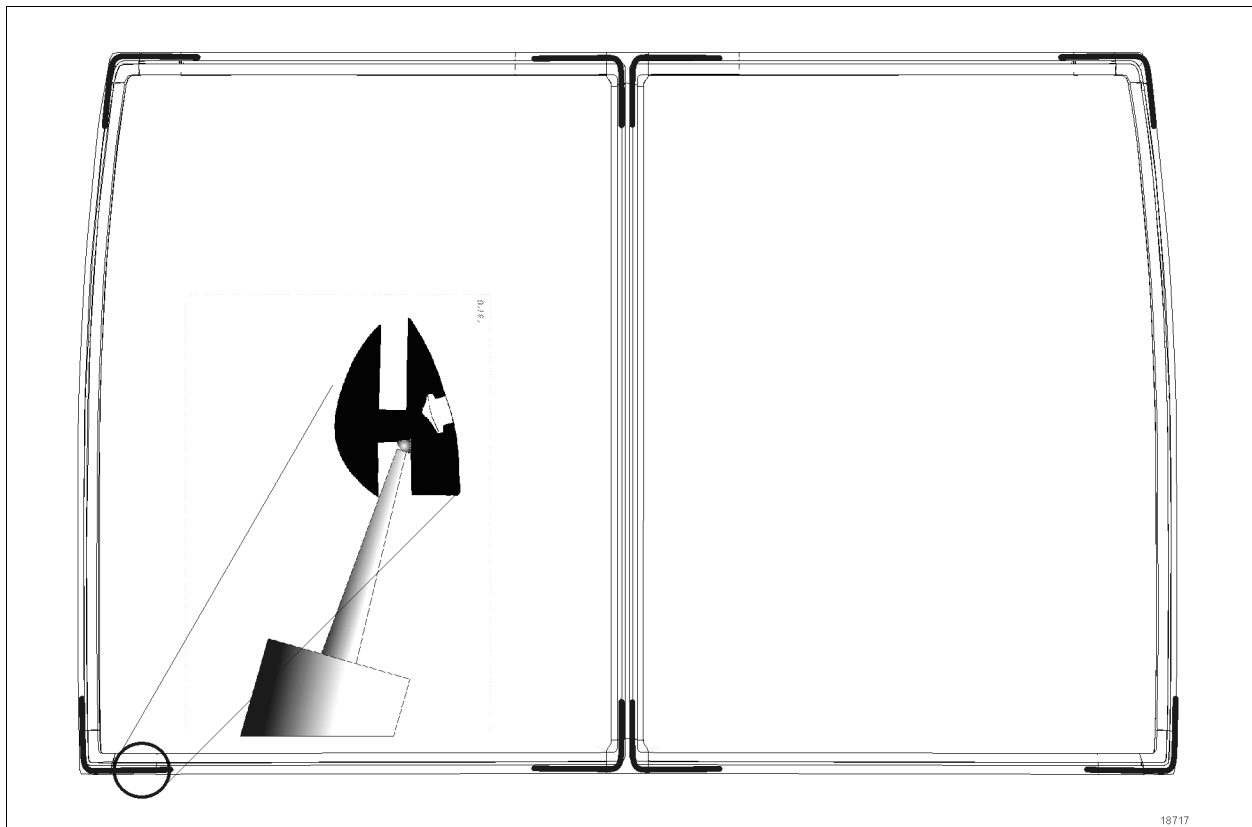

FIGURE 51: APPLICATION OF BLACK ADHESIVE
2. Apply a 1/8" bead of black Simson adhesive #684685 to all four corner of the gasket in the groove outside corner as illustrated in Figure 51. Do this *before* placing gasket on vehicle structure to control quality and continuity of bead. This method helps achieve a watertight installation.